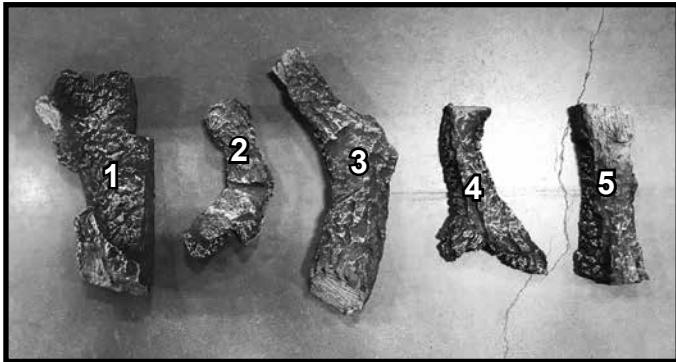

Figure 1. Log Identification
**NOTICE: To simplify the installation process, use Figure 1 to positively identify each individual log before beginning installation.**